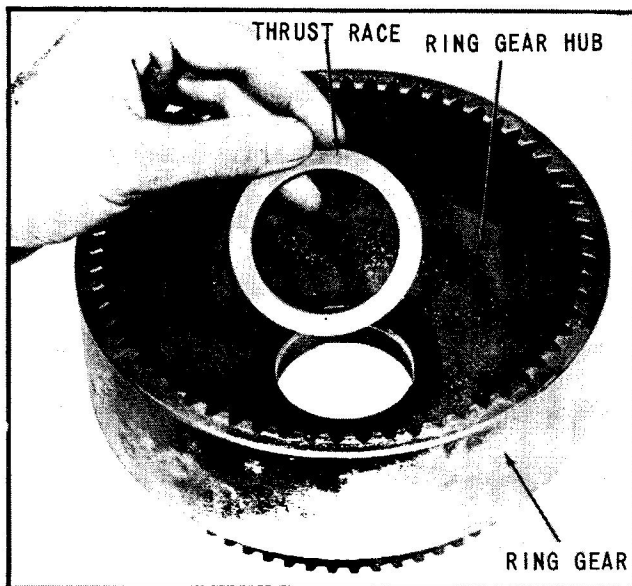

Fig. 48 Install Thrust Race
15. Install thrust race with flange toward ring gear hub, (Fig. 48).